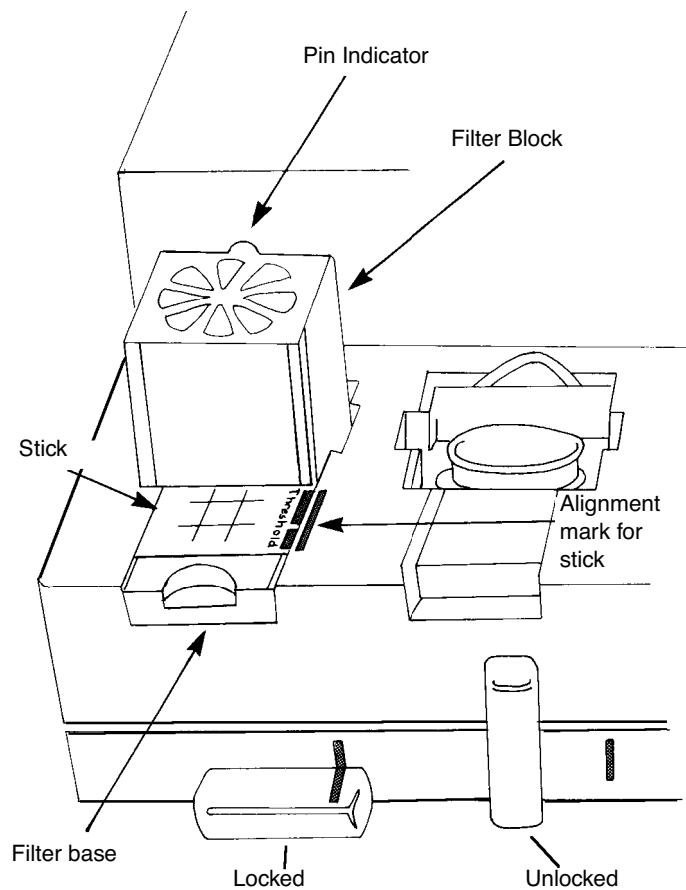

Figure 3-12: Filter Block Attached to Filter Base
- 1) Put a filter block on the filter base so that the legs of the block straddle the filter base, and the pin indicator on the block aligns with the locating pin on the filter base (Figure 3-12).
- 2) While pressing down on the top of the filter block, lock the filter block to the filter base by turning the locking lever on the Workstation clockwise to the 3 o'clock position (Figure 3-12).